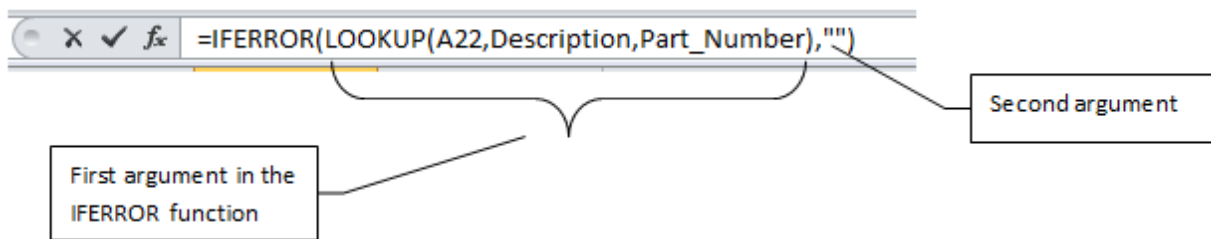

Figure 8.24. IFERROR Function used to remove error code when cell is empty.
4. Click at the end of the function after the closing parenthesis and type ,""") and then on the Formula bar click the Enter button . Compare your results with Figure 8.24.